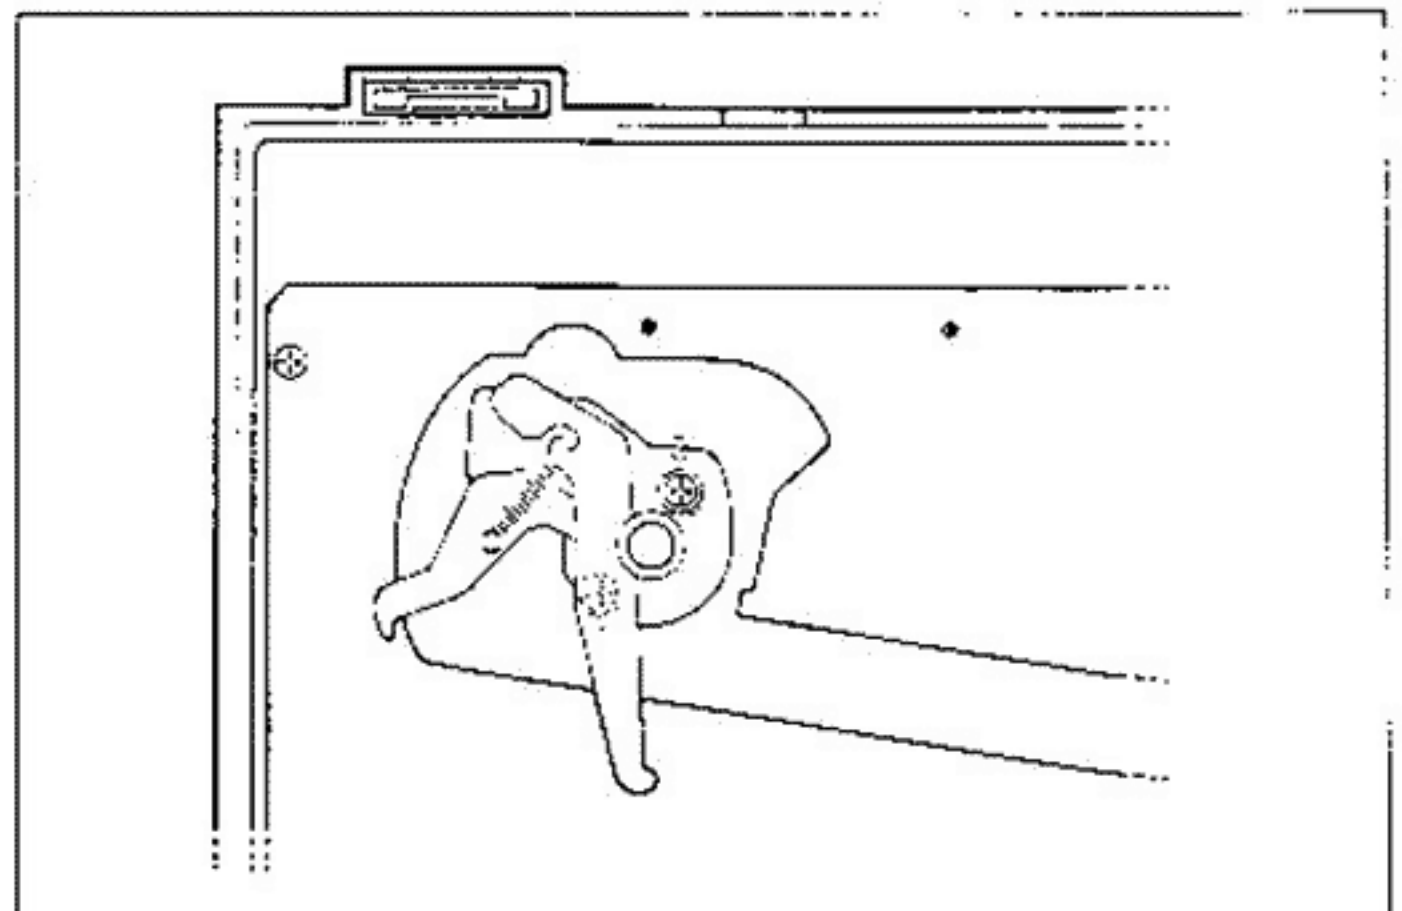

Fig. 5
c. Remove screws ① and ② in Fig. 5 and then remove the return arm Ass'y.
①, ②: Flat Head Tapping Screw 3 x 10Y